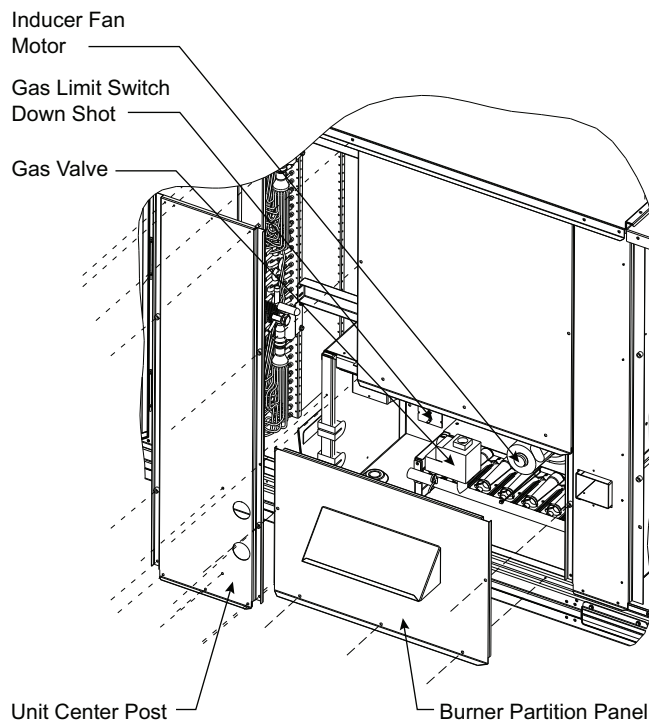

Fig. 58 — Burner Partition Pane and Unit Center Post
5. Remove the screws at the base of the burner partition panel (see Fig. 58) and slide out the panel.
3. Remove the unit center post (see Fig. 58).